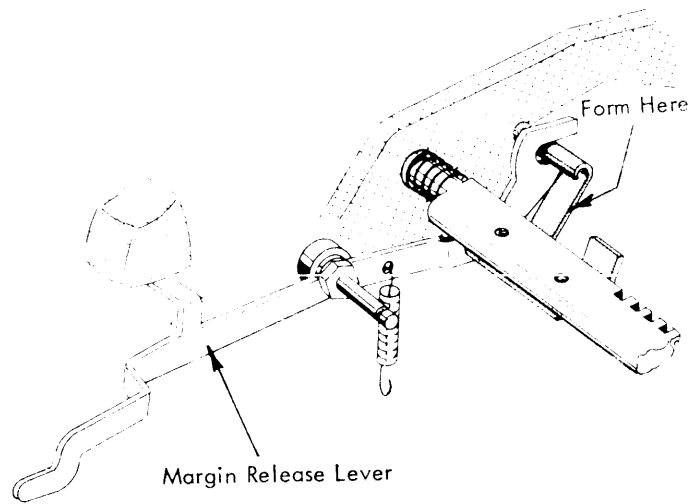

FIGURE 172. Margin Release Mechanism (721 New Style)
- b. New Style - Form the margin set lever stop, which is fastened to the left end of the margin rack, so that the margin rack is level when the margin release keylever is at rest (Fig. 172).